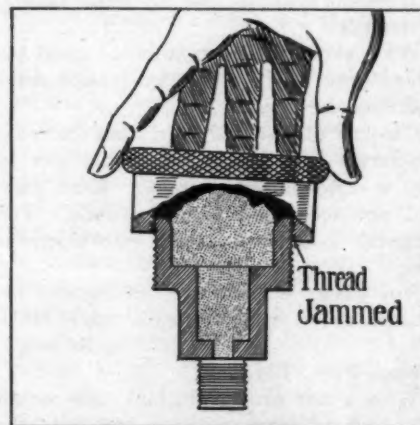

Fig. 2—How the threads are jammed by misplacing the cap of the grease-cup
**CARE OF GREASE CUPS.**—The threads on grease cups are very often defective owing to the fact that they are not as carefully made as the utility of the cups would justify. This defection in the formation of the thread and the carelessness often displayed in putting the caps in place is the cause of no small amount of harm. If the threads are crossed as shown in Fig. 2 a resistance will be offered to the turning of the cap and the operator will be under the impression that he has tightened up on the cup sufficiently to feel the pressure of the grease, while in reality the pressure will be caused by the resistance offered against turning by the incorrect engaging of the thread. It is therefore of prime importance that the cap of the cup be placed upon the body squarely, as parts provided with grease cups generally require considerable care in the way of lubrication.